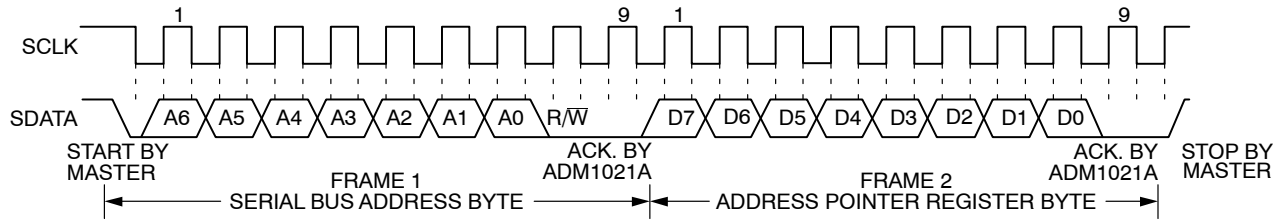
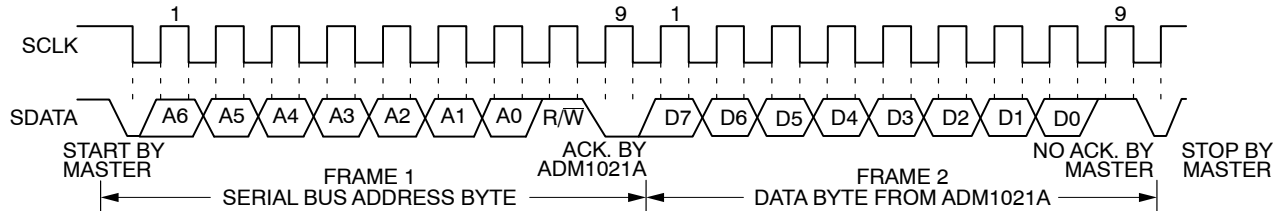

Figure 15. Writing to the Address Pointer Register Only
Figure 16. Reading Data from a Previously Selected Register
1. If the ADM1021A's address pointer register value is unknown or not the desired value, it is first necessary to set it to the correct value before data can be read from the desired data register. This is done by performing a write to the ADM1021A as before, but only the data byte containing the register read address is sent, because data is not to be written to the register. This is shown in Figure 15. A read operation is then performed consisting of the serial bus address, R/\overline{W} bit set to 1, followed by the data byte read from the data register. This is shown in Figure 16.
2. If the address pointer register is known to be already at the desired address, data can be read from the corresponding data register without first writing to the address pointer register, so Figure 15 can be omitted.